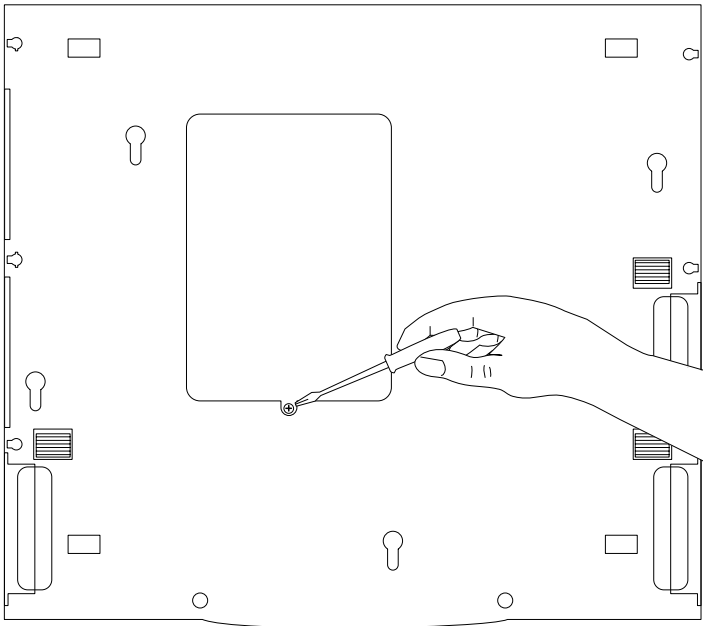

Figure 3-11 Removing the Memory Cover
3. Using a small Phillips screwdriver, remove the memory access cover as shown in Figure 3-11.